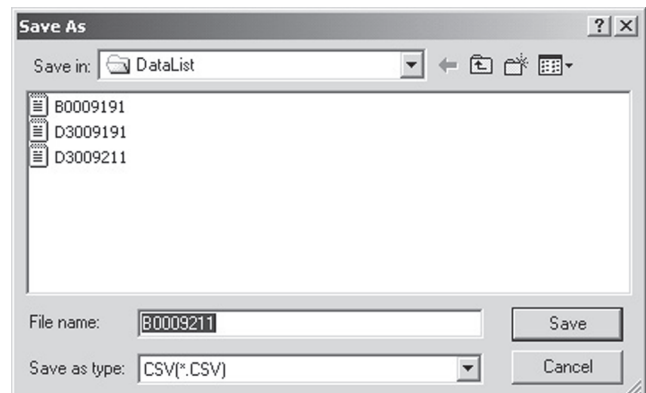

Fig.113
2. The "Save As" dialog box appears. (Fig.113)